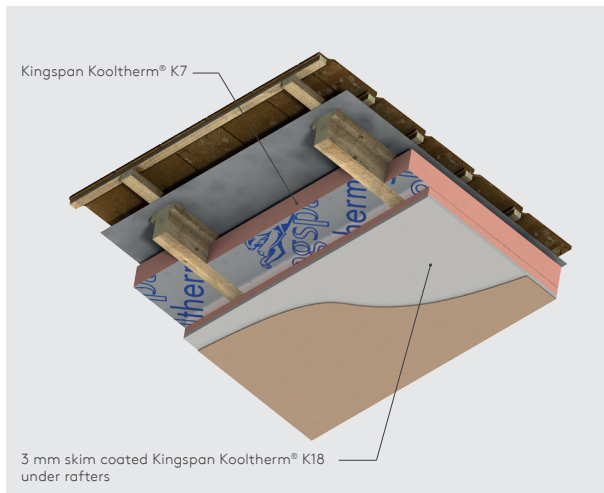

Figure 4 - Mechanically fixed to timber rafters with Kingspan Kooltherm® K7 Pitched Roof Board between rafters
- Sheets of Kingspan Kooltherm® K18 may be used to line ceilings (see Figure 4).
- Alternatively, where there are to be extensive heavy internal fittings, the construction outlined in Figure 4 can be adopted.